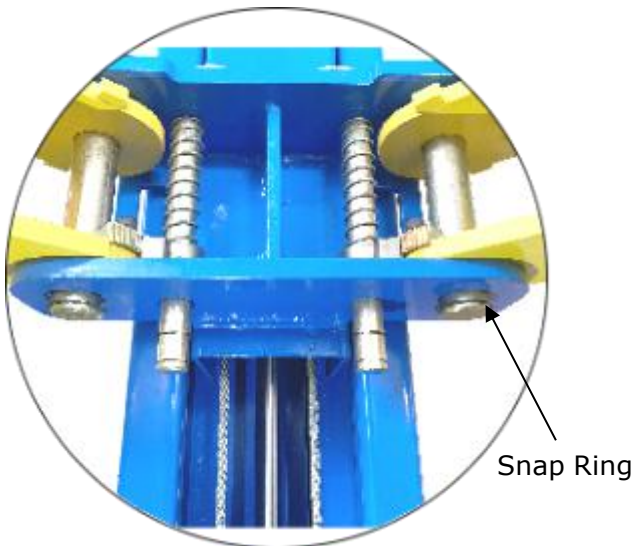

Fig. 35
1. Install the lifting arms (See Fig. 35).